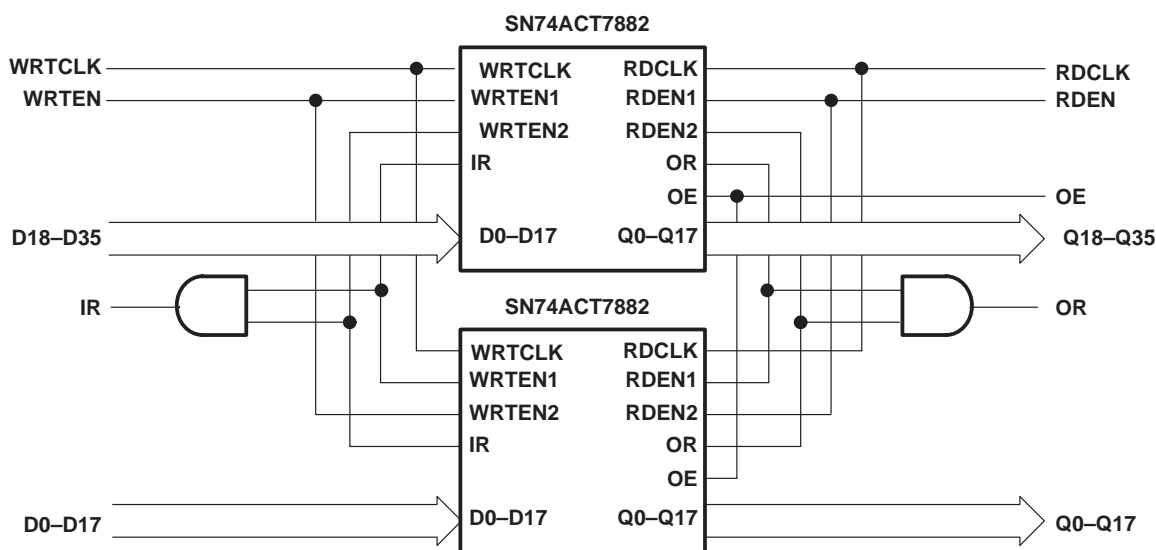

Figure 9. Word-Width Expansion: 2048 × 36 Bits
Figure 9 is an example of two SN74ACT7882 devices in word-width expansion. Width expansion is accomplished by simply connecting all common control signals between the devices and creating composite IR and OR signals. The almost-full/almost-empty (AF/AE) flag and half-full (HF) flag can be sampled from any one device. Depth expansion and width expansion can be used together.